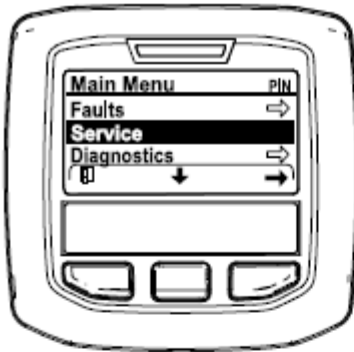

Figure 4
2. Navigate to the MAIN MENU, press the center button to scroll down to the SERVICE MENU, and press the right button to select the SERVICE option (Figure 4).